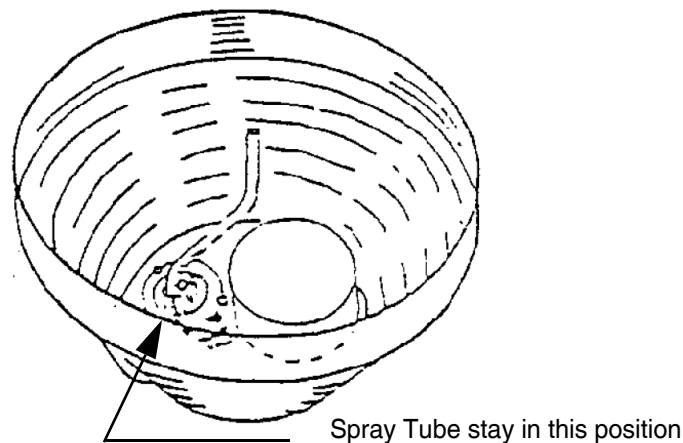

Figure 6.
4. Line up the lines on the pump cover base of the bowl. Drop the pump cover in so that the three tabs on the bowl base go through cut-outs in the pump. Turn pump counterclockwise until tabs of the bowl hit tabs of the cover. (See Figure 6.)